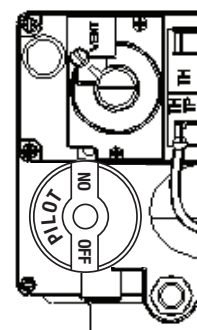

Fig. 4
6. **Set Gas Valve to "ON":** Once the pilot stays lit, turn the gas valve knob to "ON" (Fig. 4).